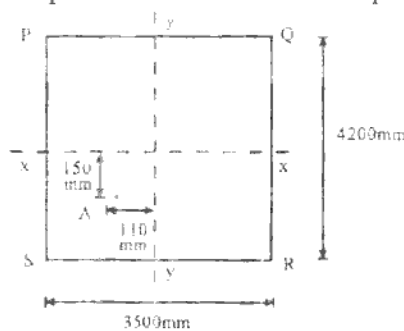

Fig. 9
9. A masonry pier of 3500mm x 4200mm supports a vertical load of 120kN as shown in figure 9. Find the stresses developed at each corner of the pier. 16